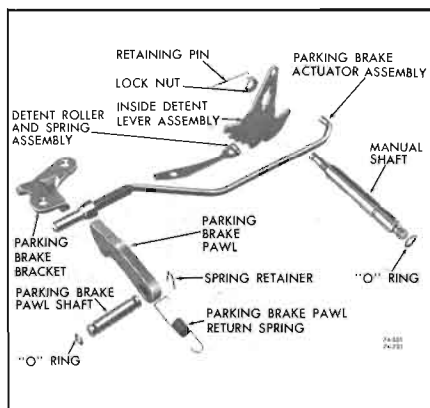

Figure 74-731
1. Inspect the parking actuator rod for cracks, broken spring retainer lugs. See Figure 74-731.